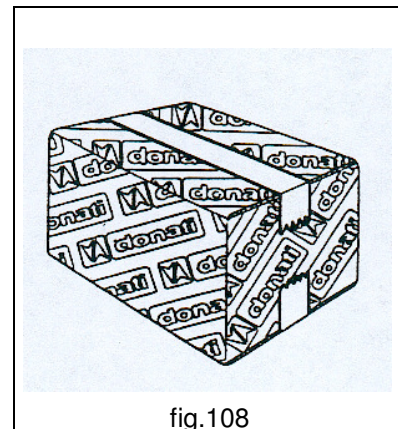

fig.108
- **NEVER** use non-original spare parts or parts not recommended by the manufacturer (fig.108).